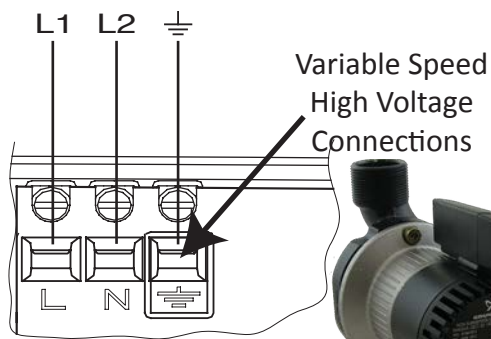

Figure 5: Variable Speed Pump High Voltage Connections
7. Complete high voltage wiring to variable speed pump. Remove pump terminal box cover to access high voltage connections. Run high voltage wiring from the “L” side of the compressor contactor (see CAUTION below) to the variable speed pump terminals (refer to Figure 5). Wiring must meet all applicable code requirements, including requirements for wire protection, such as conduit. Wire size must be at least 14 AWG copper conductor.